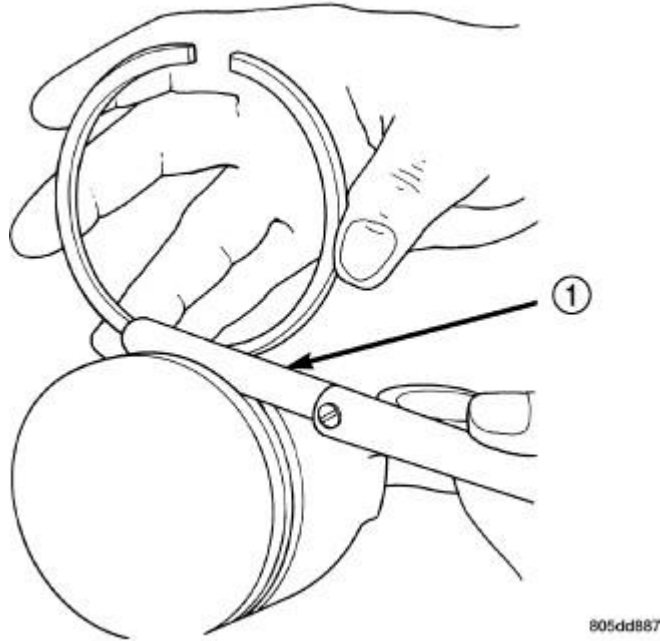

Fig. 195: Measuring Piston Ring Side Clearance
5. Measure the ring side clearance as shown in **Fig. 195**. Make sure the feeler gauge (1) fits snugly between the ring land and the ring. Replace any ring not within specification.